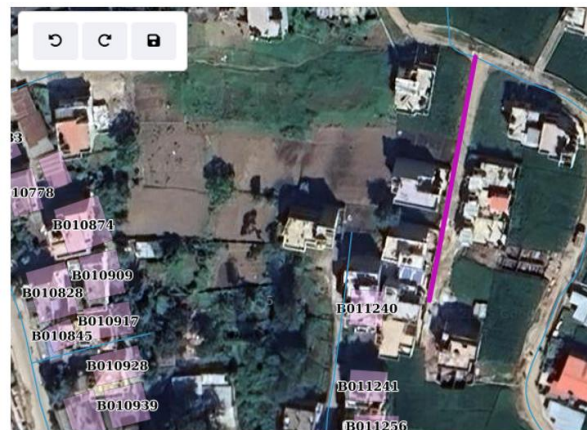

Figure 14- 9 Spatial information of new road section
- First, the road line is pre-selected based on the road code (refer to Figure 14- 9).